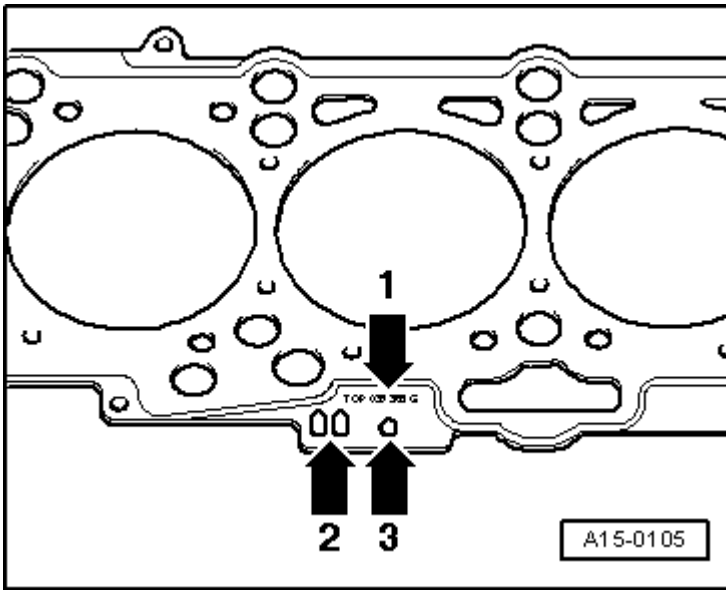

Fig. 5: Identifying Cylinder Head Gasket Identification
- Observe the identification, refer to Fig. 5.